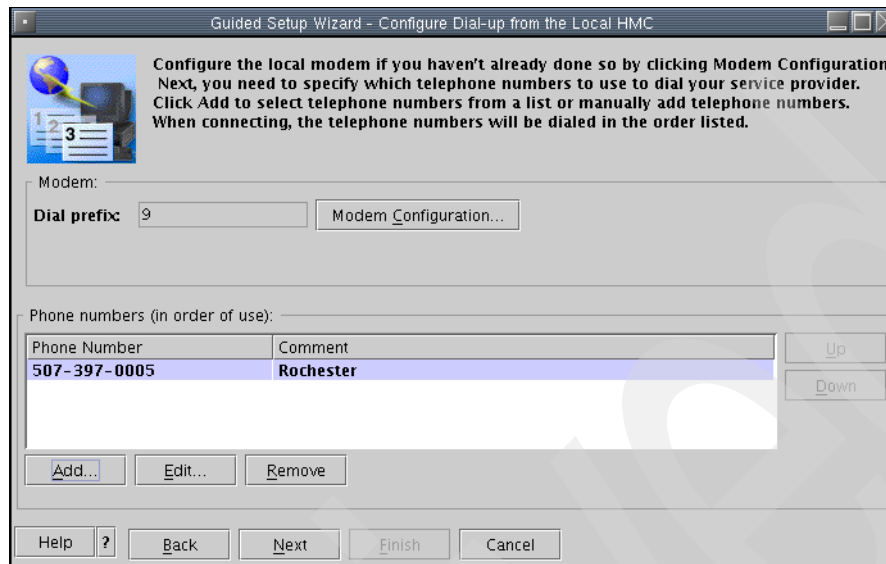

Figure 4-37 Guided Setup wizard - Dial-up configuration
35. We return to the Guided Setup Wizard - Configure Dial-up from the Local HMC panel (see Figure 4-37). You can add additional phone numbers by repeating the same procedure again and selecting a different number.